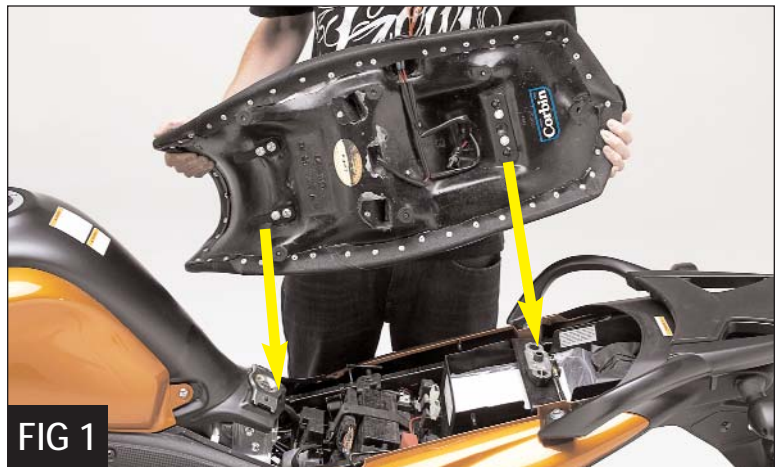

FIG 1
3. To install your Dual Saddle, slip the front tongue of your saddle at the rear of the gas tank, align the corbin bracket to the stock bracket and push down on the saddle until you hear the lock click. (Figure 1)